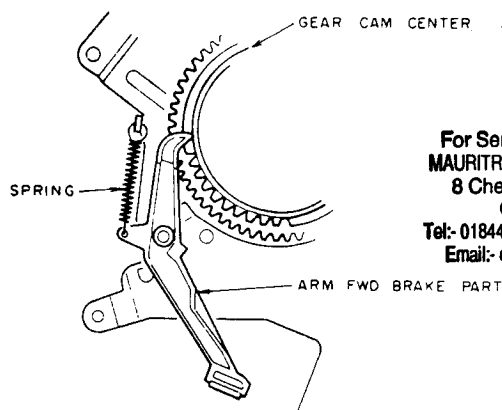

Fig. 4-16
- 7) Attach the ARM FWD BRAKE and Spring as shown in Fig. 4-16.